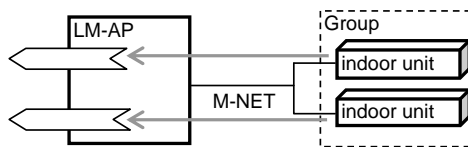

Fig.1
*3: The state of indoor unit is separately output from the corresponding network variable even if indoor units are set to a same group. As shown on Fig.1, the state of an indoor unit(sub) is not output to the network variable of an indoor unit(main) in the same group. As shown on Fig.2, the state of each control board of the indoor unit is separately output from the corresponding network variable when an indoor unit is composed of several control board and each control board has a M-NET address. The state of the control board(sub) is not output to the network variable of the control board(main) in the same indoor unit.